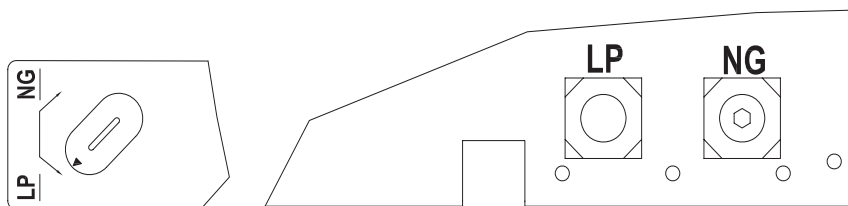

Figure 15
1. Overturn chassis, See Figure 15.